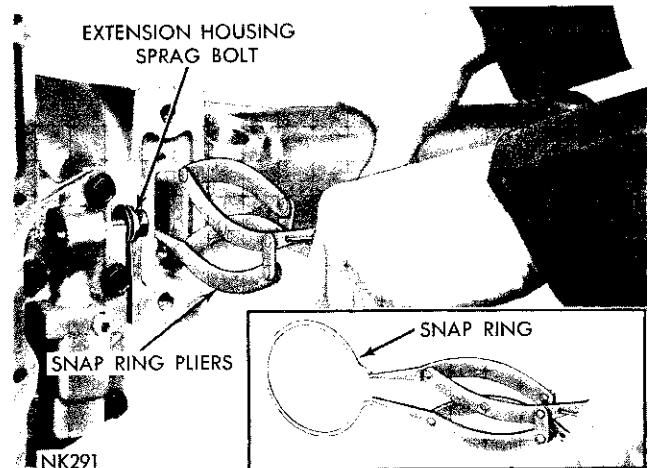

Fig. 38—Removing or Installing Extension Housing (Chrysler Models)
(4) Remove the extension housing to transmission bolts, **do not remove the long bolt from the extension housing as it supports the parking sprag.**
(5) Remove two screws, plate and gasket from the bottom of the extension housing mounting pad. Spread the large snap ring from the output shaft bearing with Tool C-3301 (Fig. 38). With the snap ring spread as far as possible, carefully tap the extension housing off the output shaft and bearing.
(2) Remove the output shaft bearing rear snap ring. Wipe the output shaft splines clean and dry, then wrap the splines with 3 or 4 layers of masking tape to protect the extension housing bushing during output shaft bearing removal.
(3) Temporarily reinstall the extension housing to provide a means of removing the output shaft bearing. Spread the large snap ring in the housing as far as possible with Tool C-3301 (Fig. 38). Carefully tap the housing into place, then release the snap ring. Make sure the snap ring is fully seated in the outer race ring groove of the bearing.
(4) Using a plastic or rawhide mallet, remove the extension housing and bearing assembly by striking the square boss rearward on the bottom rear end of the extension housing. Spread the large snap ring and